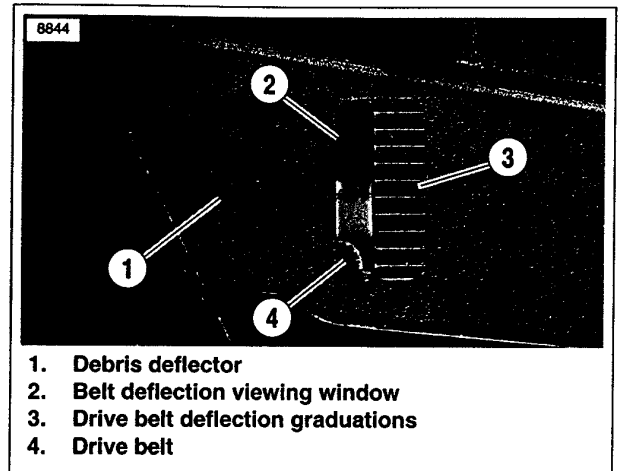
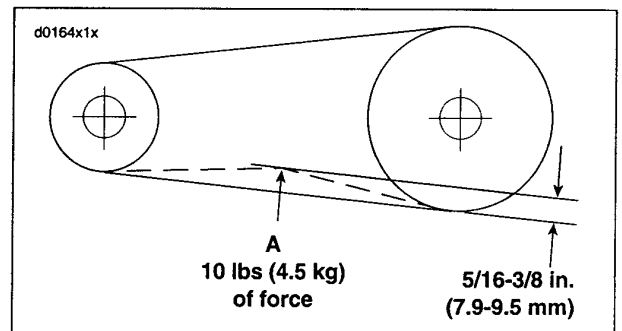

Figure 1-36. Belt Deflection Window
Figure 1-37. Checking Belt Deflection
- a. Slide O-ring (4) toward 0 ft-lbs (0 kg) mark (3).
- b. Fit belt cradle (2) against bottom of drive belt half-way between drive pulleys (point A in Figure 1-37.).
- c. Press upward on knob (6) until O-ring slides down to 10 ft-lbs (4.5 kg) mark (5).
- d. See Figure 1-36. Measure belt deflection as viewed through deflection viewing window (2) while holding gauge steady. Deflection graduations (3) are 1/8 in. (3.2 mm) apart.
3. See Figure 1-37. Check that the drive belt bottom strand deflects 5/16-3/8 in. (7.9-9.5 mm) while applying 10 lbs (4.5 kg) of force upward at point A.